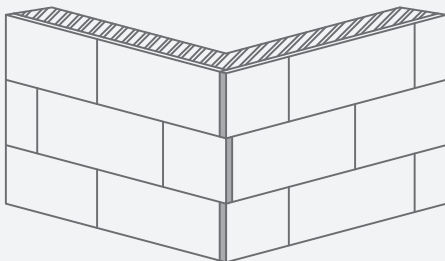

Figure 3
- Slabs should overlap on the corners of the building. (Figure 3)